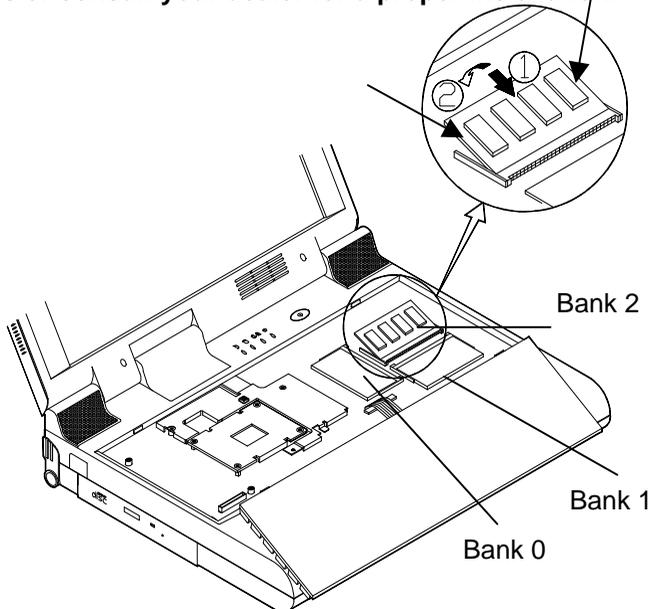

Figure 2-6
5. **Press two edges of the memory module (as the arrows indicated) to make it locked into place** (Figure 2-6).
**Make sure you install the memory module in the order of Bank 0, Bank 1, Bank 2 (see Figure 2-6). Please refer to the table of DRAM combinations or consult your dealer for a proper installation.**